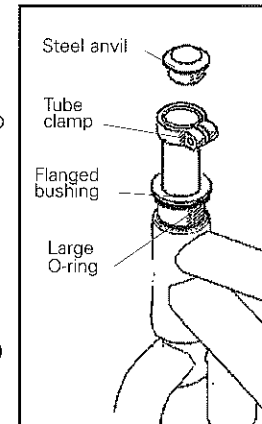

Fig. 32
1. Install the **large rubber O-ring** onto the **flanged bushing** (Fig. 32).